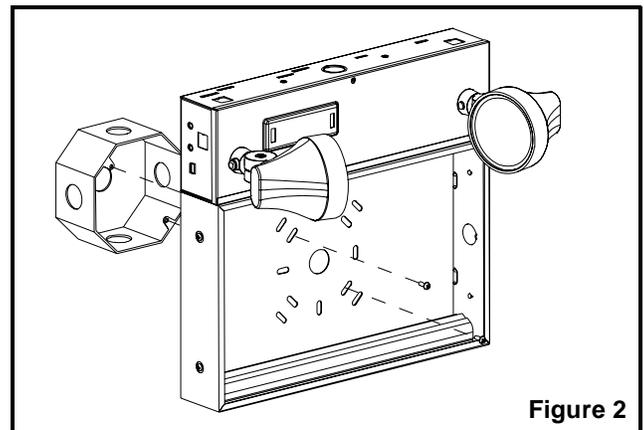

Figure 2
Wall Mount (Figure 2)
- c. Mount the exit sign securely to the junction box using the junction box screws (see figure 2).